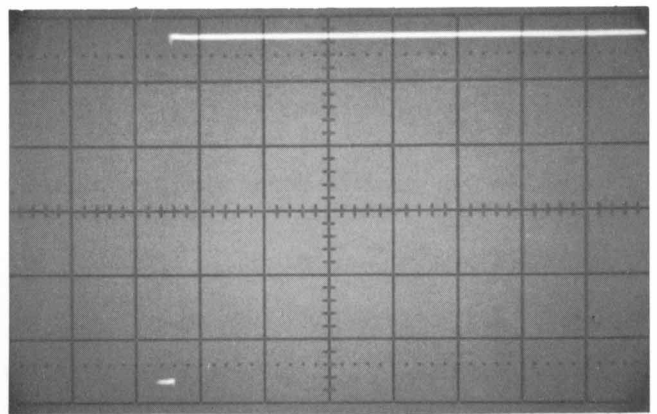

Figure 5-10. Mid-Frequency Response Final Adjustment
f. Readjust Mid Freq Response C22 for best pulse response (see figure 5-10).